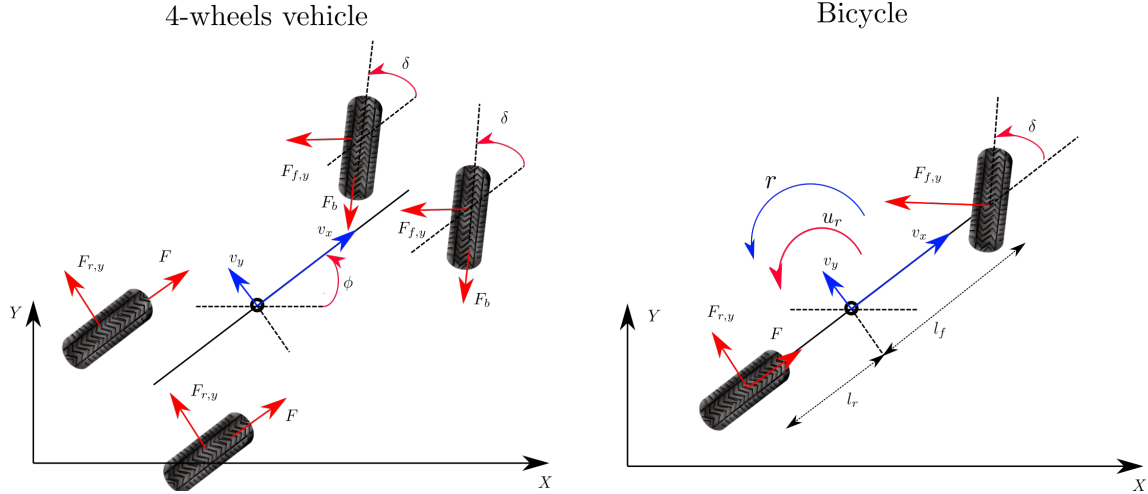

Figure 3: Dynamic Bicycle model
In this section, you will find the main model applied to derive the linear dynamics that you will use in the assignment. In this assignment, we move from a kinematic model (the one used in the previous two assignments) to a dynamic model of the vehicle, which is more realistic, even if we will still make some simplifications. Namely, consider the four-wheeled vehicle schematically represented in the left panel in (3), designed in such a way that the front wheels provide braking force to decelerate and the rear wheels provide traction force to accelerate. On the left panel in Figure 3 we have depicted a simplified model of a 4-wheels vehicle where F is the driving force, $F_{r,y}$ and $F_{f,y}$ represent the force orthogonal to the rear and front tires, respectively, and lastly, F_b is the braking force. To obtain a simplified bicycle model from the 4-wheel vehicle model, we consider the following assumptions:
- We will idealize our vehicle as a bicycle model by summing forces on parallel wheels over a single wheel (left panel in Figure 3).
- We introduce breaking force by allowing the force F (right panel in Figure 3) to take negative values for breaking.
where C_r and C_f are denoted as *cornering stiffness* coefficient and are constant parameters of tires. The additional parameter I_z appearing in the dynamics represents the moment of inertia of the vehicle around the z axis that is pointing outward in the Figure 3.